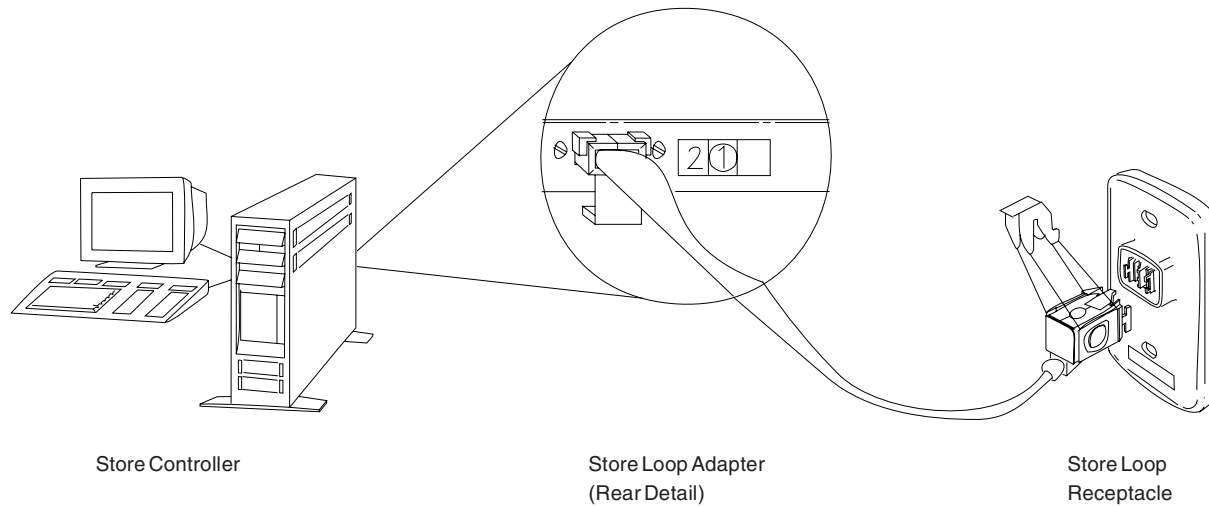

Figure 36. Store Controller Store Loop Adapter and Store Loop Receptacle
- Disconnect the primary store controller from the store loop by unplugging its store loop cable from the store loop receptacle. See Figure 36 on page 505.
- Disconnect the backup store controller from the store loop by unplugging its store loop cable from the store loop receptacle. See Figure 36 on page 505.